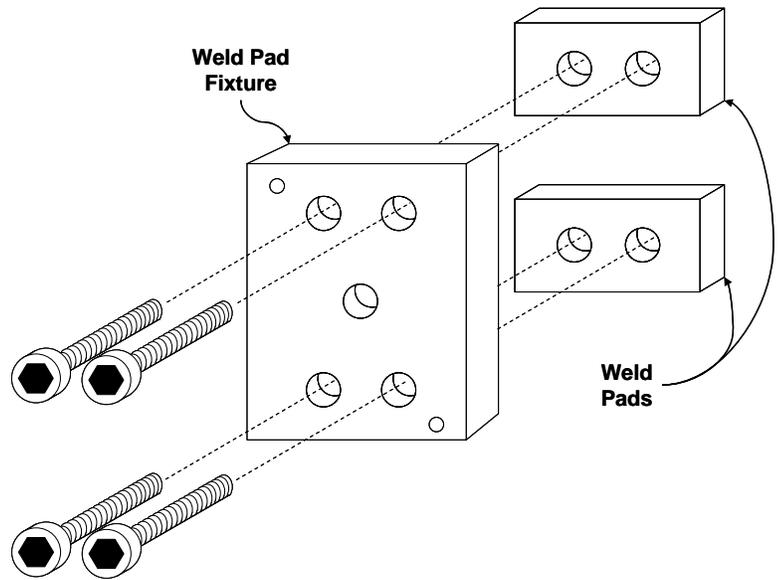

Figure 34: Weld Pad Mounting Fixture
- 4) Assemble the intermediate pads to the alignment/clamping fixture using the 1/4 x 28 bolts provided, as shown in Figure 34.